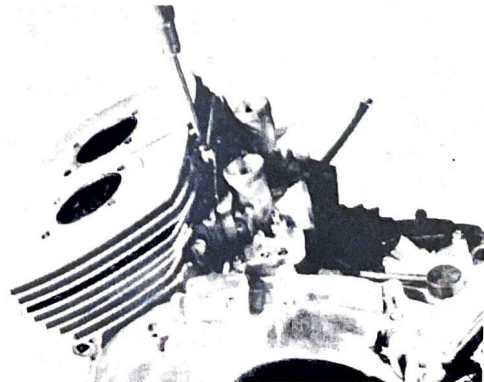

Fig. 4-20-1
- 1) Loosen the screw and disconnect the starter lever rod. (Fig. 4-20-1)